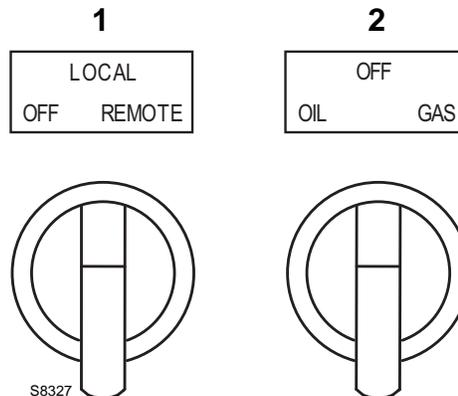

Fig. 42
Set switch 1)(Fig. 42) to "LOCAL".
Set switch 2)(Fig. 42) to "GAS".
- 1 using switch 2)(Fig. 42);
By setting switch 1)(Fig. 42), to “remote” you activate the remote fuel selection facility.